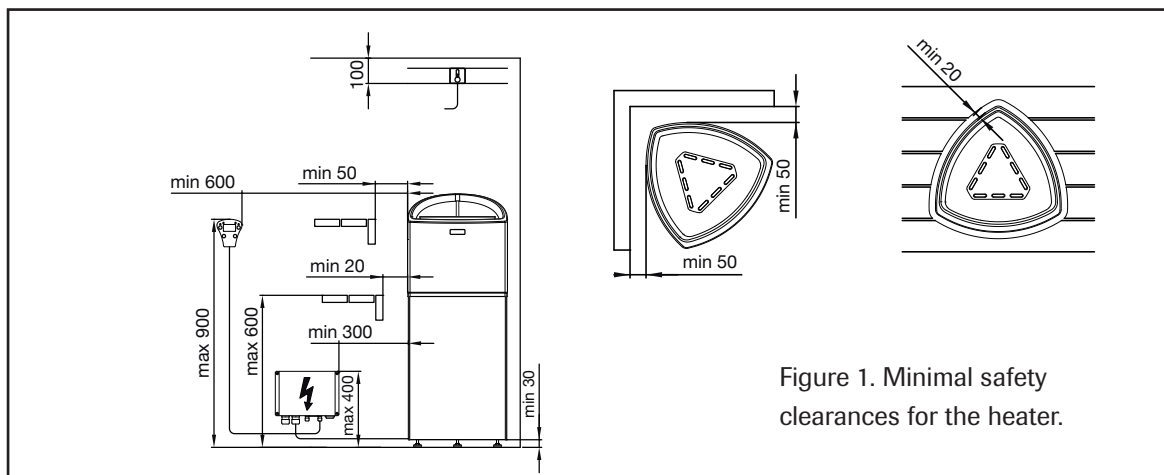

Figure 1. Minimal safety clearances for the heater.
\*\*) See figure 1
- Install control unit as shown in figure 1 and 2.
- Install temperature sensor to the wall, above the sauna heater so it is located 100mm below the ceiling. (see Fig. 1)
- The installation height of the control unit is a maximum of 90 cm and a minimum of 60 cm from the side of the heater (see Fig. 1).